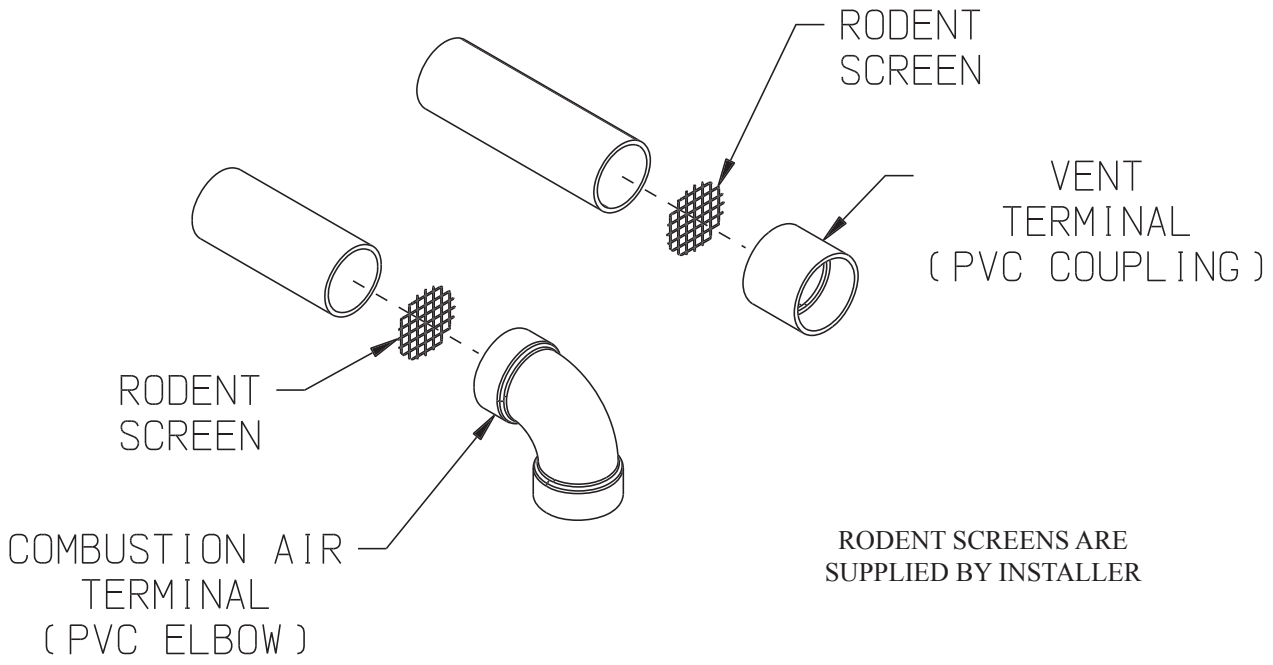

FIGURE 7.18: INSTALLATION OF STANDARD HORIZONTAL TERMINALS
Use of rodent screens (not supplied) is generally recommended for both terminations. These can be fabricated from 2 x 2 (1/2" mesh) stainless steel screen. They are installed as shown in Figure 7.18.
- a. See Figure 7.18 for proper orientation of twin pipe horizontal terminals. Outer edge of both terminals must be within 10" from wall surface. (Figure 7.7)